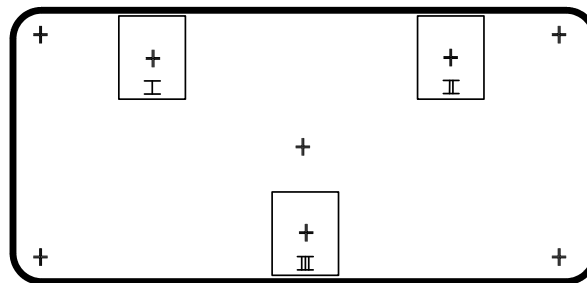

FIGURE 2-15 BORESIGHT PATTERN
1. Display the Boresight Test Pattern by pressing TEST on the remote keypad or use the built-in keypad and press the soft key that displays Test on the LCD display, press the UP ARROW to cycle to Boresight, and press Enter, see Figure 2-15.